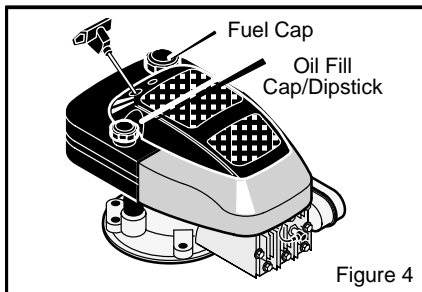

Figure 4
1. Remove the oil fill cap/dipstick shown in Figure 4. Fill the crankcase to the **FULL**